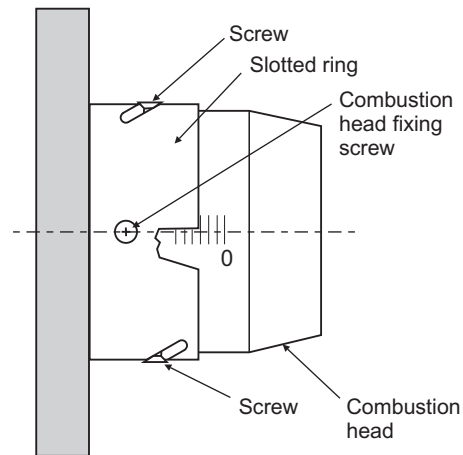

Fig. 30
- 1 **Combustion head** - Loosen the two screws securing the combustion head (**NOT** the screws in the slotted ring, Fig. 30) and withdraw the head. Clean and refit the combustion head.
To adjust the head setting, refer to Fig. 30 and proceed as follows: Loosen the two screws in the slotted ring - **NOT** the two fixing screws, and turn the blast tube until '0' lines up with the edge of the slotted ring. Tighten the two screws.